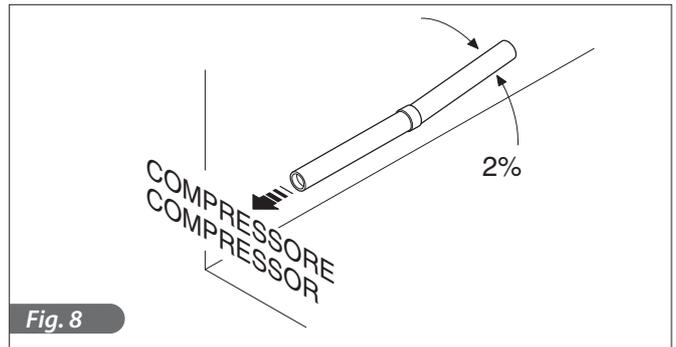

Fig. 8
- 1) Slope of the pipes (Fig.8)